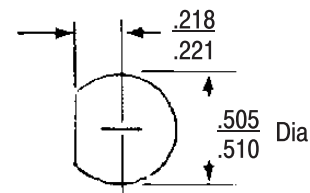

Figure 9
1. The bulkhead jack adapter can be mounted to the panel using the cutout shown in Figure 9.